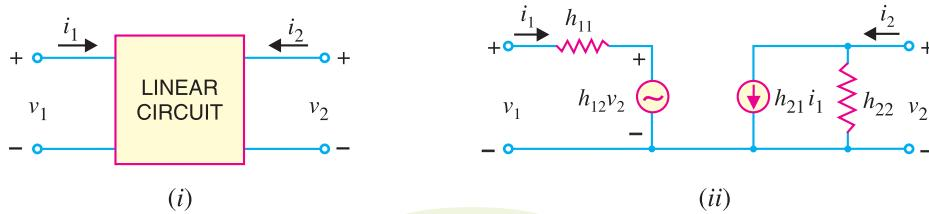

Fig. 24.6
Fig. 24.6 (i) shows a linear circuit. It is required to draw the *h* parameter equivalent circuit of Fig. 24.6 (i). We know that voltages and currents of the circuit in Fig. 24.6 (i) can be expressed in terms of *h* parameters as under :
Fig. 24.6 (ii) shows *h* parameter equivalent circuit of Fig. 24.6 (i) and is derived from equations (i) and (ii). The *input circuit* appears as a resistance  $h_{11}$  in series with a voltage generator  $h_{12} v_2$ . This circuit is derived from equation (i). The *output circuit* involves two components ; a current generator  $h_{21} i_1$  and shunt resistance  $h_{22}$  and is derived from equation (ii). The following points are worth noting about the *h* parameter equivalent circuit [See Fig. 24.6 (ii)] :
(ii) The different hybrid parameters are distinguished by different number subscripts. The notation shown in Fig. 24.6 (ii) is used in general circuit analysis. The first number designates the circuit in which the effect takes place and the second number designates the circuit from which the effect comes. For instance,  $h_{21}$  is the "short-circuit forward current gain" or the ratio of the current in the output (*circuit 2*) to the current in the input (*circuit 1*).
**(iii)** The equivalent circuit of Fig. 24.6 (ii) is extremely useful for two main reasons. First, it isolates the input and output circuits, their interaction being accounted for by the two controlled sources. Thus, the effect of output upon input is represented by the equivalent voltage generator  $h_{12}v_2$  and its value depends upon output voltage. Similarly, the effect of input upon output is represented by current generator  $h_{21}i_1$  and its value depends upon input current. Secondly, the two parts of the circuit are in a form which makes it simple to take into account source and load circuits.